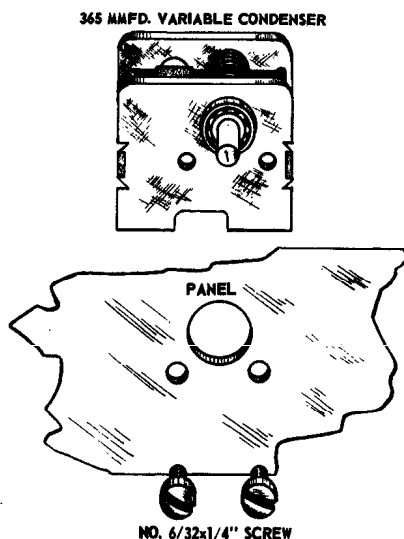

Figure 7.
- ☐ 47. Mount the FINAL PL. TUNE condenser TC-1 on the rear of the panel as per Fig. 7. Slip a #6 lockwasher over each of two 6-32x1/4" screws. Insert the screws from the front of the panel and tighten securely.
- ☐ 48. Mount the ANT. LOAD condenser TC-2 on the rear of the panel as per Fig. 7. Use same type hardware and procedure as per step 47.